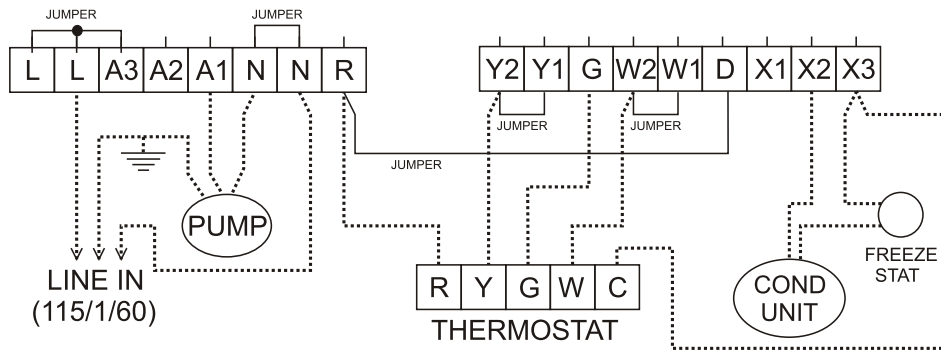

FIGURE 12
3. Connect line voltage leads as shown in Figure 12.
Refer to Figure 12 for factory wiring details. For low voltage connections between the unit and the thermostat, use No. 18 AWG colour-coded, insulated (63° F / 35°C minimum) wires.